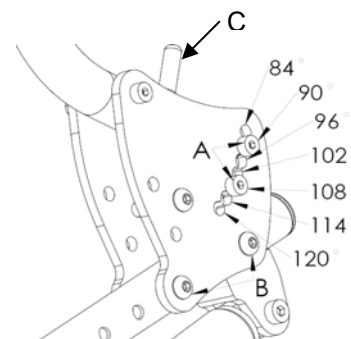

Fig. 4
- a. Locking pins in (items A in Figure 4) can be repositioned to change the back angle of the chair.
- b. The available angles start at 84° in the top hole and incremented by 6° for each subsequent hole, as noted in Figure 4.
- a. To adjust between the two locking pin (back angle) positions, lift the actuator handles (item C in Figure 4) on each side of the seat back upwards to release the latches from the pins.